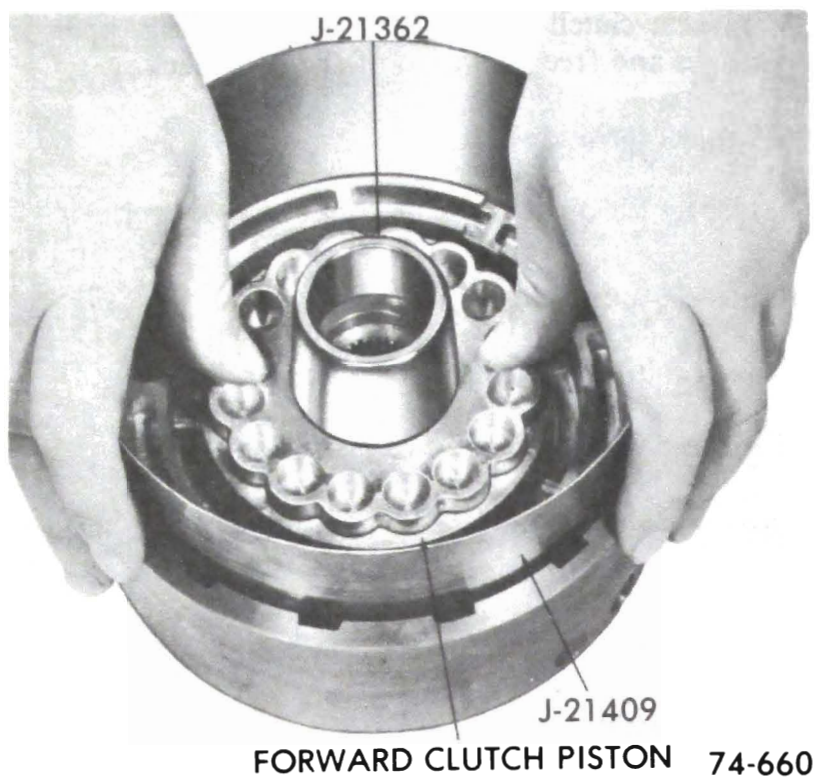

Figure 76-187
3. Place Seal Protector Tool J-21362, over clutch hub and install outer clutch piston Seal Protector J-21409, into clutch drum and install piston. See Figure 76-187.